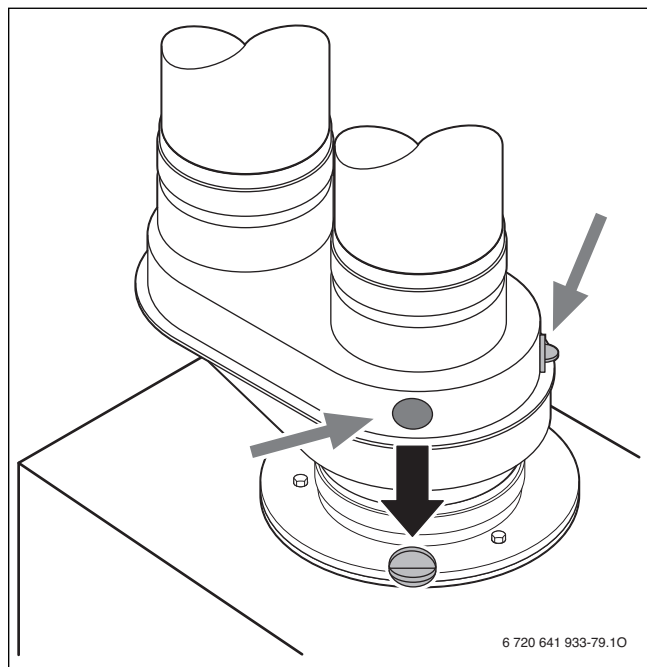

Fig. 58 Open one of the flue gas test ports
- ▶ Remove plug from flue gas test port (→ Fig. 58, page 44).